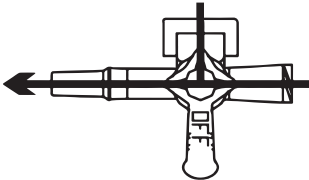
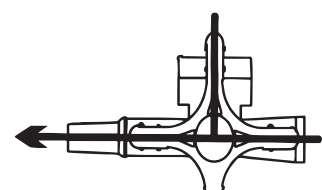

Figure 7
Figure 11
1. Perform priming under a condition which the septum is facing downward and the tap is open to three different positions (Figure 7 or Figure 11).
6. Open the tap to three different positions (Figure 7 or Figure 11).